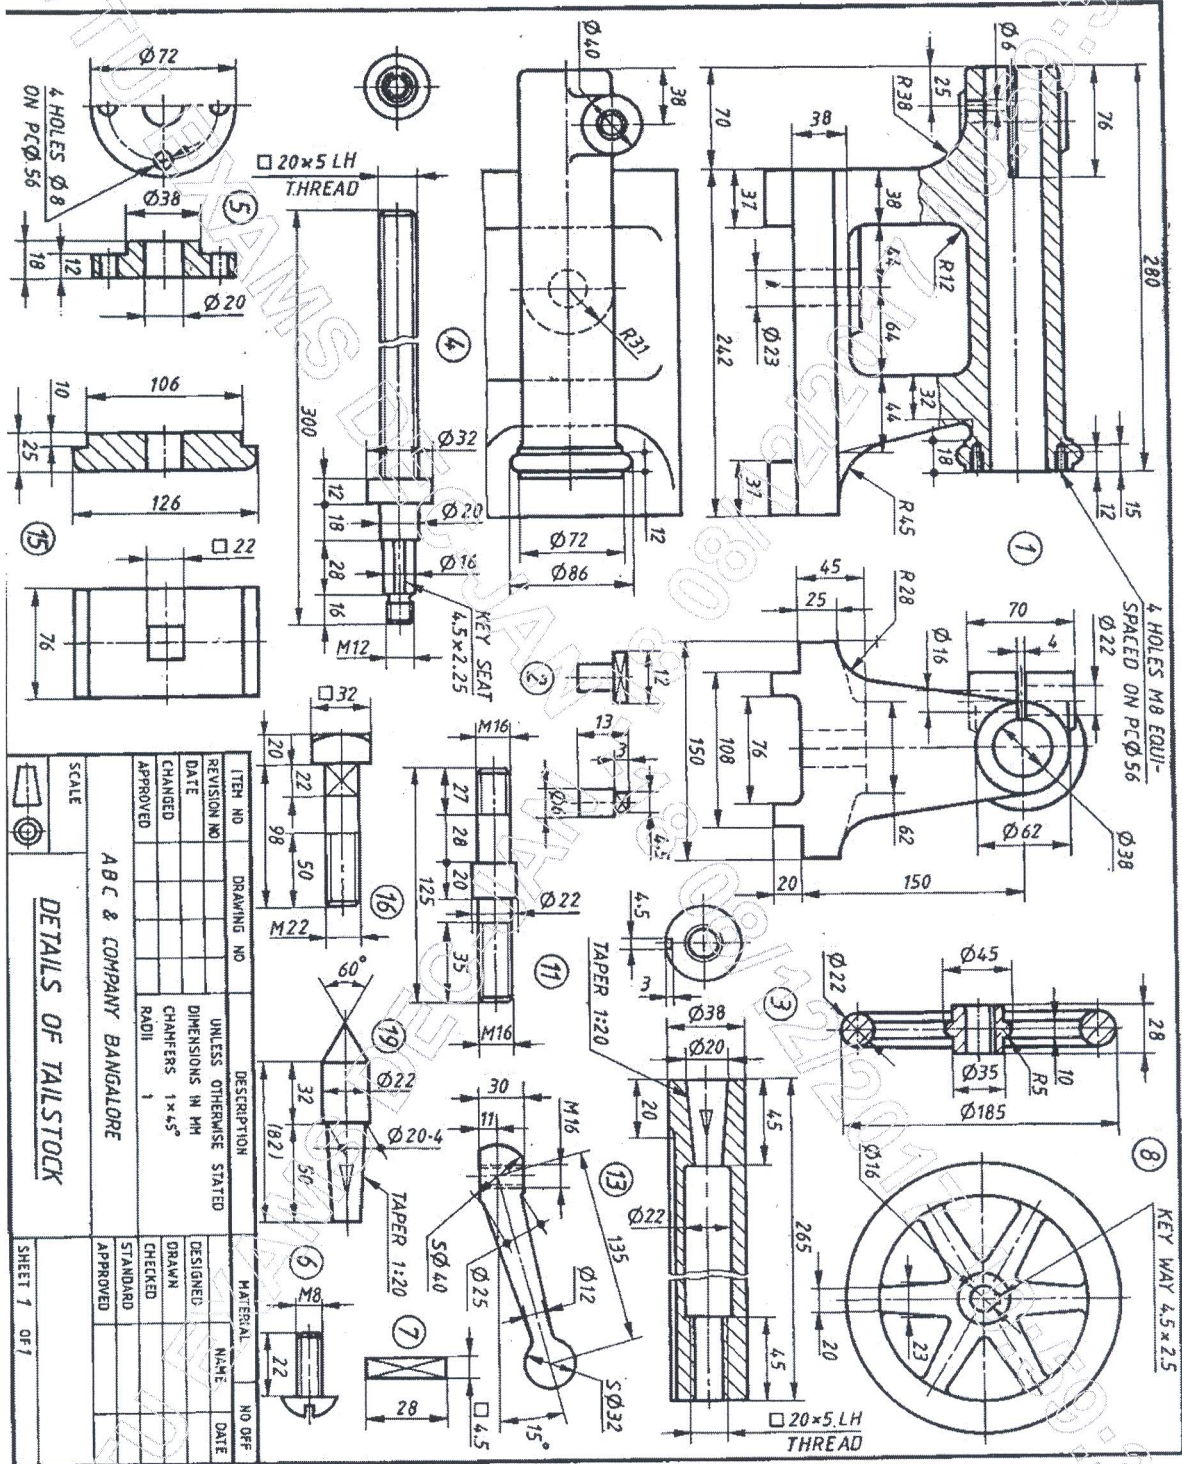

Figure 3. TAILSTOCK OF A LATHE
Q.No.6 Details of TAILSTOCK of a Lathe is shown in following Figure 3. Assemble the parts and draw the following views. (a) Sectional Front View (b) Top View. (50 Marks)